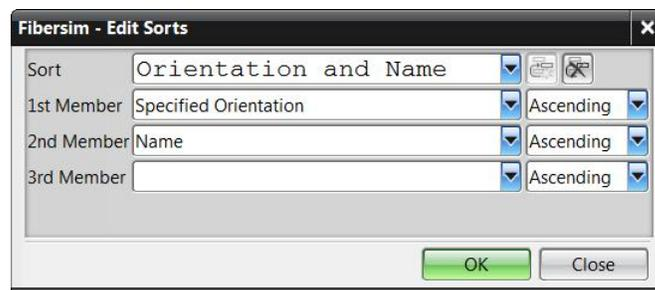

Figure 1–8
4. Select parameters for *1st*, *2nd*, and *3rd Member* and the order as shown in Figure 1–8.